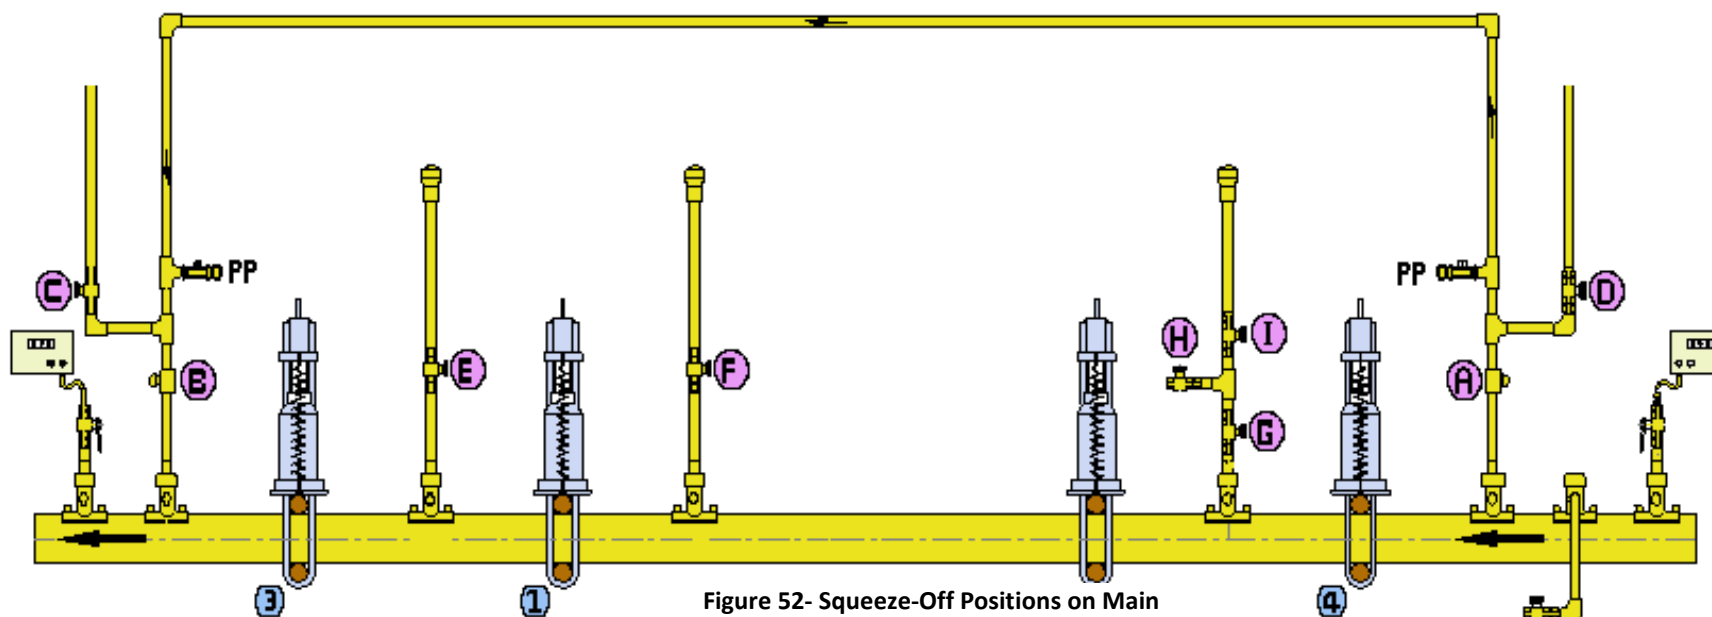

Figure 52- Squeeze-Off Positions on Main
5. Place squeeze-off units, on the parent main at the marked positions. See Figure 52.
8. Attach all vent pipes and the purge riders onto main see Figure 52.
10. Fit and connect vent E onto parent main upstream of squeeze-off 1 ensuring minimum distances from squeeze-off position and future tie-ins. See Figure 52.